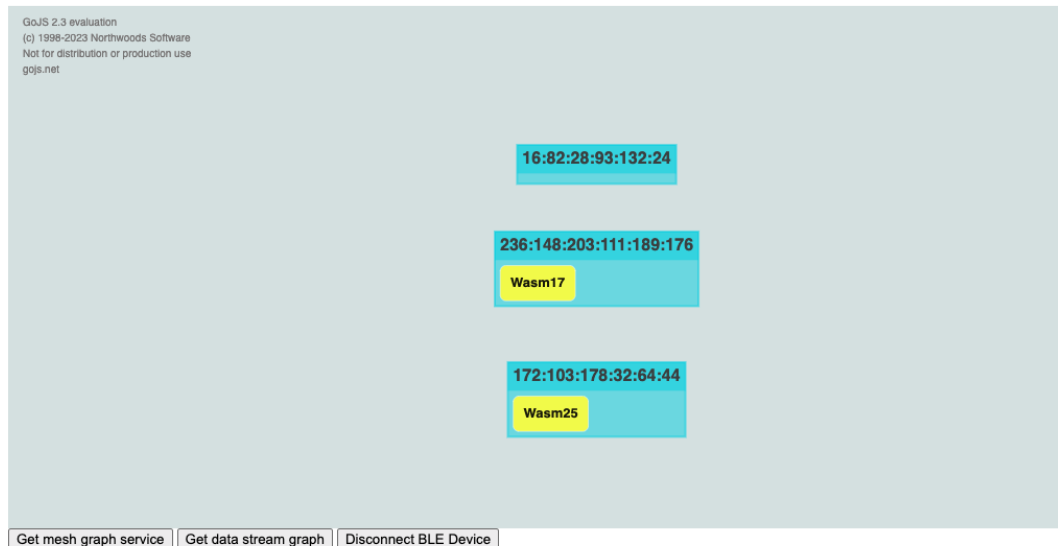

Figure 4: Graph after the initial scan
2. Click the button "Get data stream graph" (Figure 4)